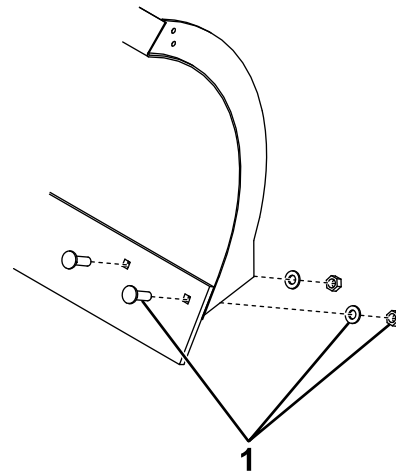

Figure 1
3. Remove the 2 outermost bolts, 2 washers, and 2 nuts securing the blade to the plow and discard them (Figure 1).